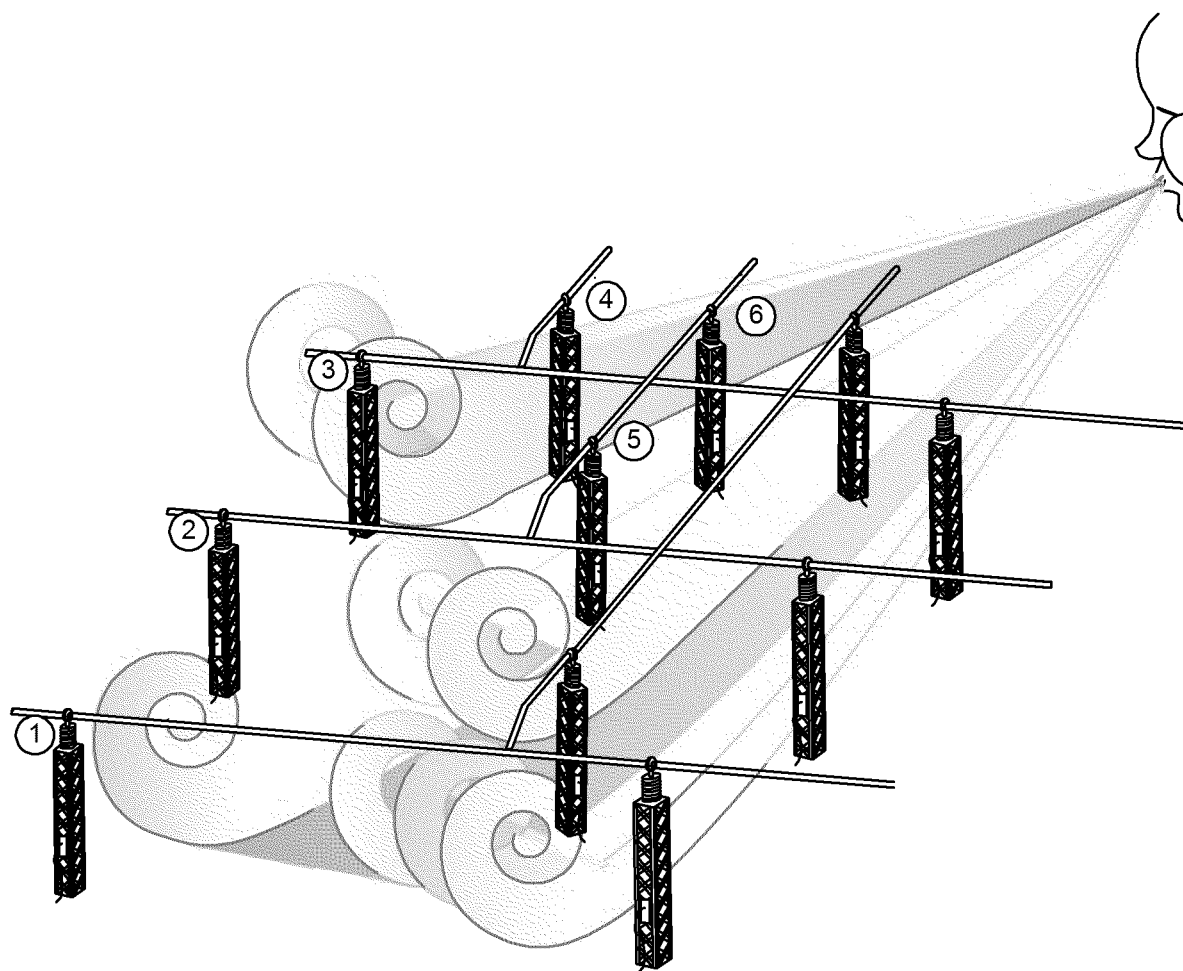

Figure 5-3
- A. In Figure 5-3 below, the wind is blowing from the top right to the bottom left across the station. In this example, start washing at insulator number 1. Move to number 2, then number 3, then number 5, then number 4, then number 6, and so on. First, wash the downwind insulator to prevent overspray from landing on the unwashed insulator. If the wash procedure was started at insulator number 5 or number 6, overspray caused by washing may be carried by the wind and fall onto insulator number 4 or number 3 possibly resulting in a flashover.